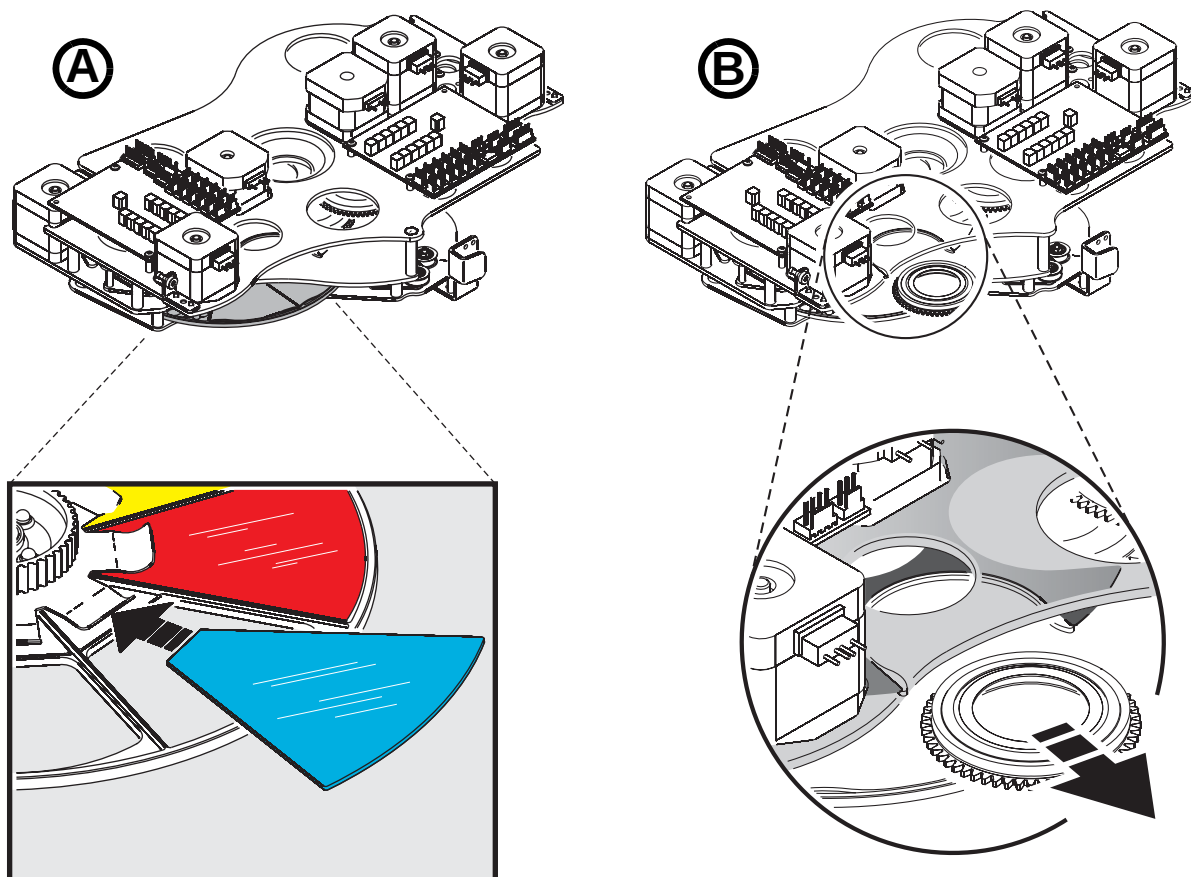

Figure 20: Color filter and gobo replacement
4. See **A** in Figure 20 on page 33. Rotate the color wheel until the filter you want to change is accessible. Lift the filter away from the color wheel slightly to release it, then grasp it by the edges and remove. If your fingers are too large, protect the glass with a piece of paper that has been folded several times and grasp the filter with needle nose pliers.
2. See **B** in Figure 20 on page 33. Rotate the relevant gobo wheel until the gobo you want to replace is accessible.
8. Check that the goboholder is the right way up (see Figure 20), then work the rim of the gobo holder under both clips and snap the gobo holder back into position on the gobo wheel. If necessary, a small screwdriver or similar tool may be used to pry the clips away from the wheel.